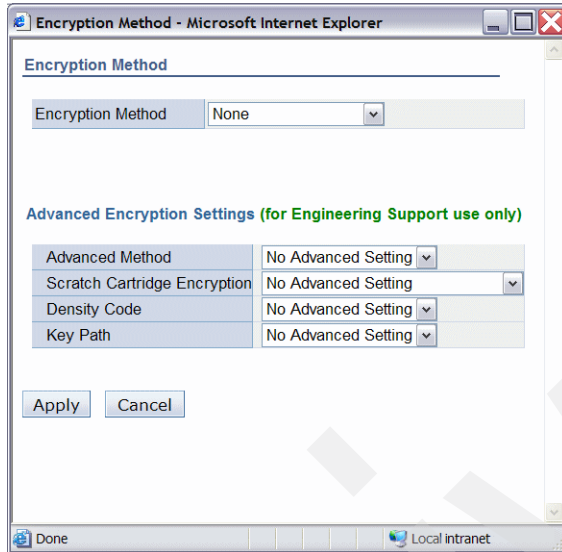

Figure 6-76 Encryption method
3. The Encryption method window is displayed (Figure 6-76). Note that the default value is None, and that the four remaining parameters are for IBM Support use only.